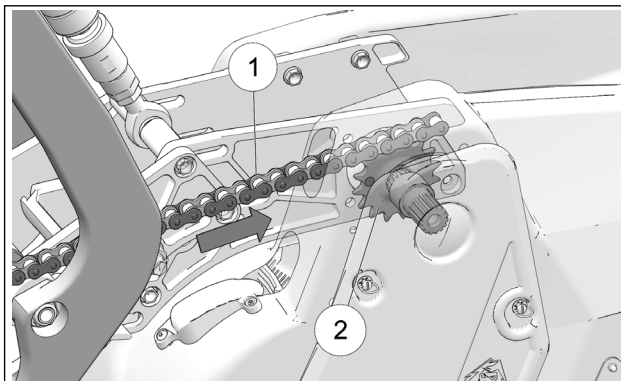

Figure 26
- Insert chain (1) in upper opening at the front of the system and feed it over jack shaft drive sprocket (2). See Figure 26.